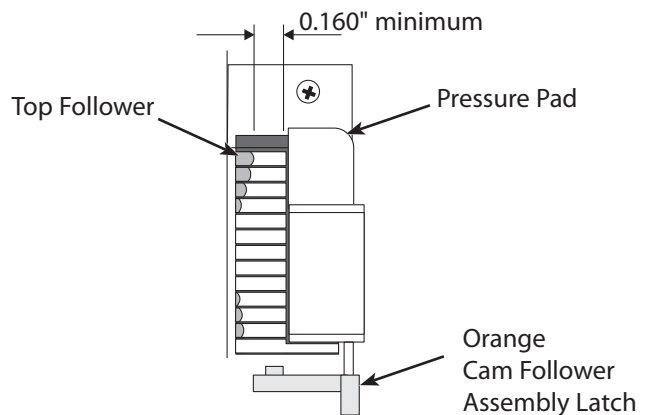

Figure 2-2 Follower/Pressure Pad Gap
3. Using the pin gauge, check the gap between the pressure pad and the end of the followers (while it is still positioned closest to the pad). See Figure 2-2 below.